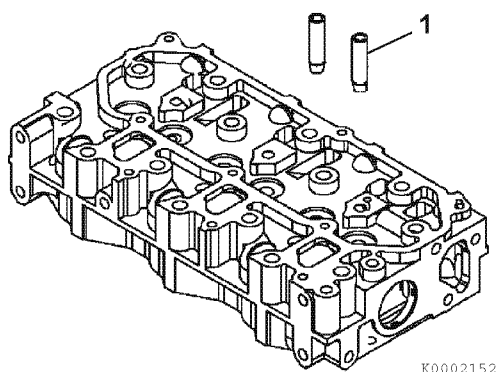

Figure 6-24
2. Immediately after removing the valve guides from the freezer, insert the valve guides (1, **Figure 6-24**) in their proper positions.